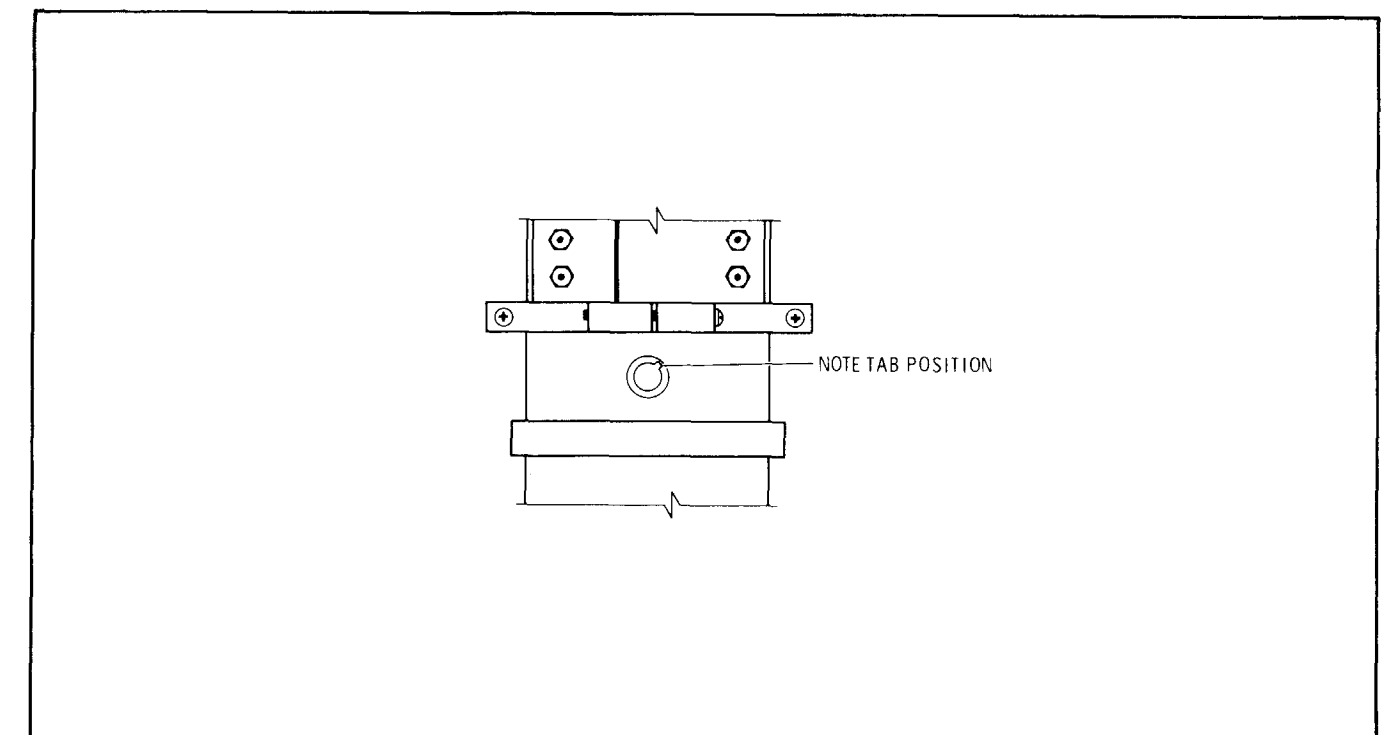

Figure 8-83. RF Oscillator Transistor Orientation
4. Re-insert transistor as shown in Figure 8-83. Replace transistor cap (31) including the two RF I plugs (33 and 34).
5. Connect power meter sensor (HP 435A/8482A) to the Divider/Filter Buffer Amplifier output, A3A1J1 (41). Measure output power while tuning oscillator across band - it should always be within +0.5 to +4.5 dBm. If not, perform adjustment in paragraph 5-38.
6. Connect power meter sensor to the Counter Buffer Amplifier Output, A3A1J2 (37). Measure output power while tuning oscillator across band - it should always be within -12 to -2 dBm. If not, perform adjustment in paragraph 5-38.